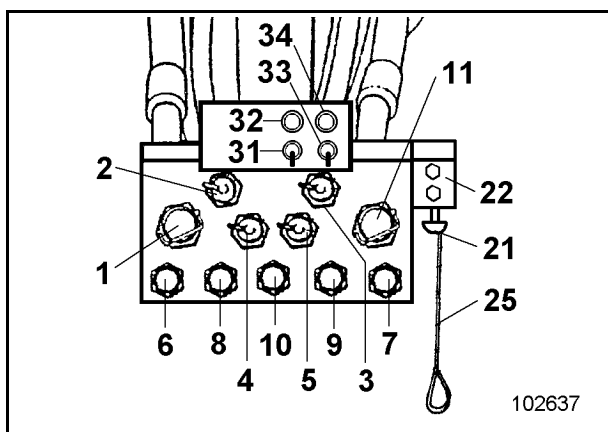

Fig. 3-133:
Fill up the grease container through the service station (Fig. 3-133:).
- Switch on the indicator system with toggle switch (33, Fig. 3-133:).
- Unscrew the cap of the express coupling (11).
- When the grease container is full, the indicator lamp (34) lights up.